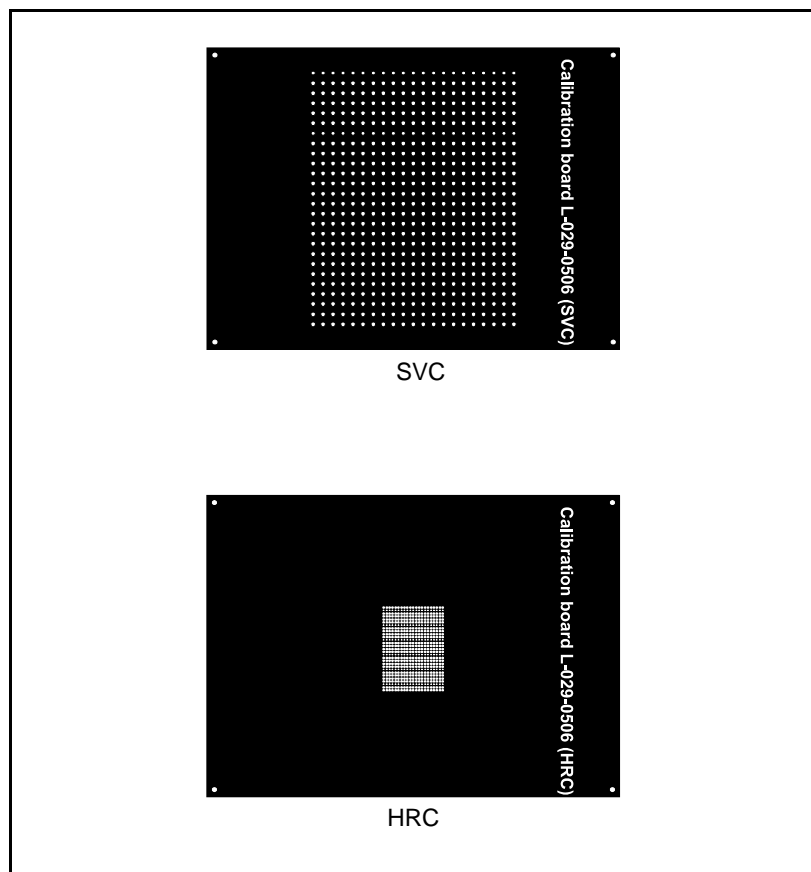

Figure 4-17. Black calibration board.
- Black calibration board, see Figure 4-17.
One side of the calibration board in Figure 4-17 is used for calibrating the SVC (Standard Vision Camera) and the opposite side of the calibration board is used for calibrating the HRC (High Resolution camera) in a dual vision system.
- When prompted, place the rubber cloth and the calibration plate on the area calibration background (if not already done, insert the area calibration background as described in step 2 on page 4-13) the rubber cloth will keep the calibration plate from sliding on the area calibration background. Depending on the camera that is currently calibrated, make sure that the correct calibration pattern is exposed to the camera (see Figure 4-17).